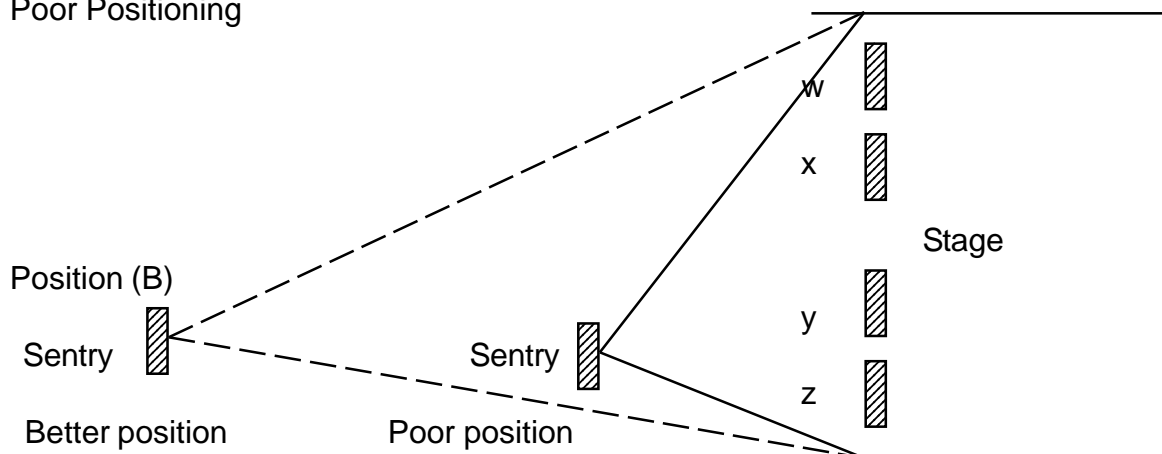

Fig 2
In Fig 2 the instruments y&z will appear louder to the Sentry than instruments w&x. Moving the Sentry back away from the stage to position (B) will minimise the problem